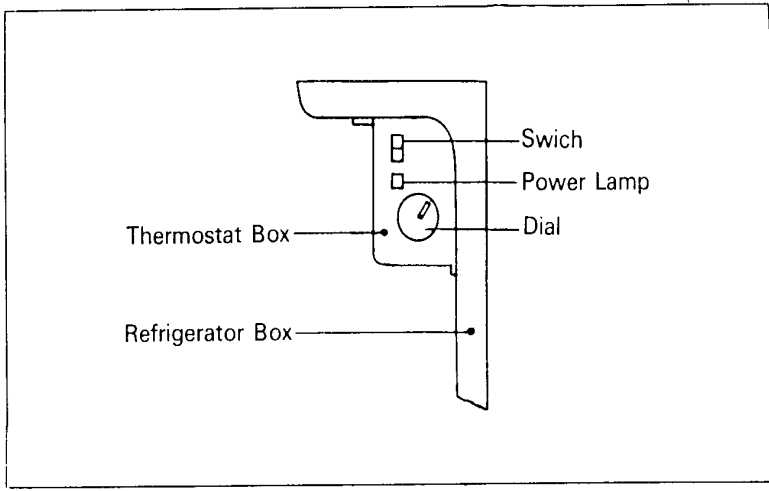

Fig. 7
3. Set the thermostat box on side wall of the refrigerating box, within reach, referring to (Fig. 7) Turn the switch to the "off" position.